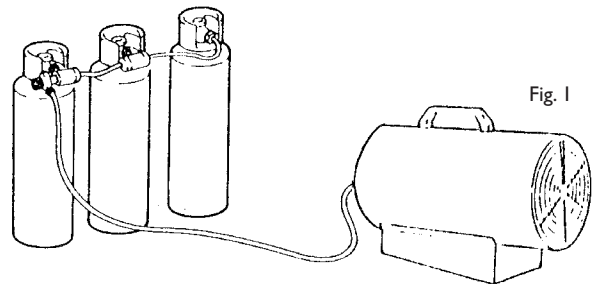

Fig. 1
- If the heater has to work for a long period at its maximum capacity, it is possible that ice will form on the cylinder. This is due to excessive vapour withdrawal. Not for this reason, or for any other, should the cylinder be heated. To avoid this effect, or at least to reduce it, use a large cylinder or two cylinders linked together (Fig.1).